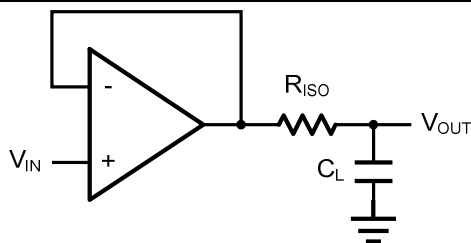
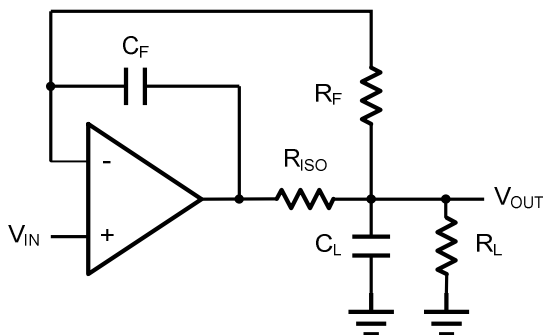

Figure 2. Indirectly Driving a Capacitive Load Using Isolation Resistor
Figure 3. Indirectly Driving a Capacitive Load with DC Accuracy
The HM809X family is optimized for bandwidth and speed, not for driving capacitive loads. Output capacitance will create a pole in the amplifier's feedback path, leading to excessive peaking and potential oscillation. If dealing with load capacitance is a requirement of the application, the two strategies to consider are (1) using a small resistor in series with the amplifier's output and the load capacitance and (2) reducing the bandwidth of the amplifier's feedback loop by increasing the overall noise gain. Figure 2. shows a unity gain follower using the series resistor strategy. The resistor isolates the output from the capacitance and, more importantly, creates a zero in the feedback path that compensates for the pole created by the output capacitance.
The circuit in Figure 3 is an improvement to the one in Figure 2. R_F provides the DC accuracy by feed-forward the V_{IN} to R_L . C_F and R_{ISO} serve to counteract the loss of phase margin by feeding the high frequency component of the output signal back to the amplifier's inverting input, thereby preserving the phase margin in the overall feedback loop. Capacitive drive can be increased by increasing the value of C_F . This in turn will slow down the pulse response.